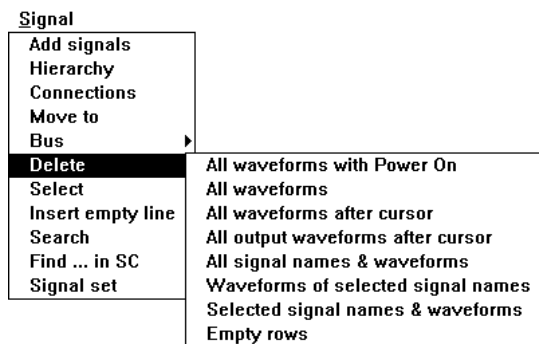

Figure 1-35. Signal Delete Menu.
All empty rows are instantly deleted. The **Delete** menu is shown shown in Figure in Figure 1-35.
- ☐ Click on the **BUS** option within the **Signal** Menu. When the window shown in Figure 1-35 appears, click on **Create**.